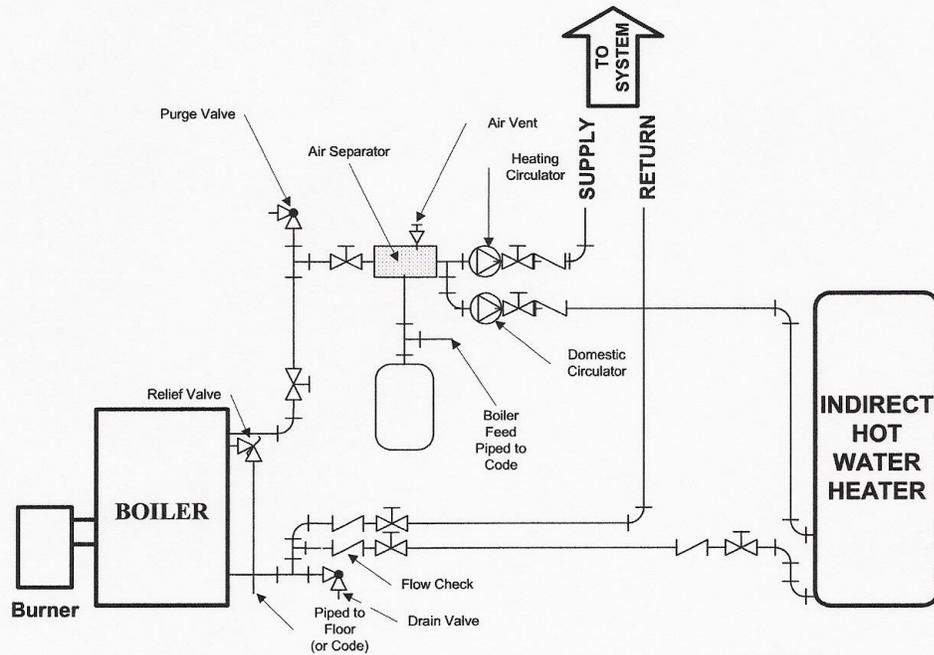

Figure 4
**Recommended locations for the circulator, expansion tank, relief valve and other trim are shown in figure1, figure2, figure3, and figure4.**
Figure 4 shows a typical installation with domestic hot water supplied by an indirect heater and with no by-pass loop installed.